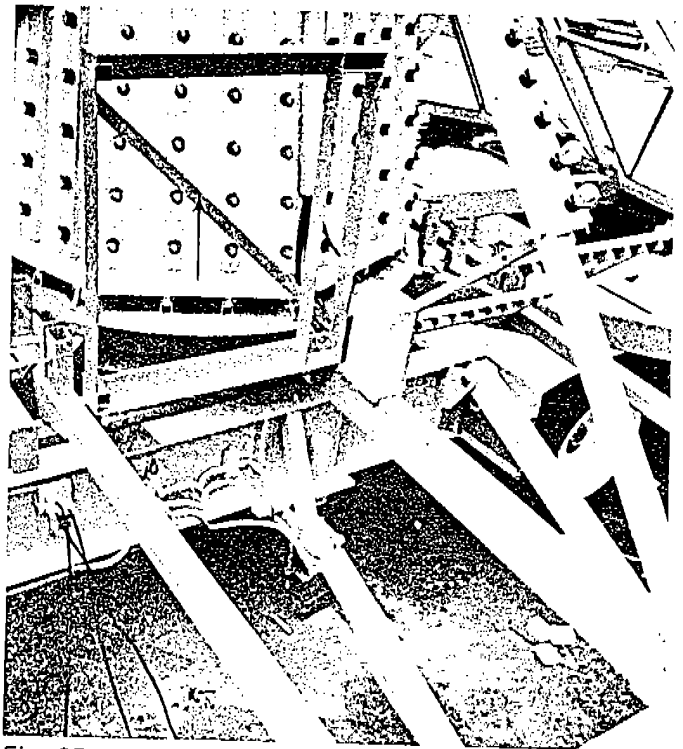

Fig. 65
- (2) Install the other rack section in the sockets on the rotating platform frame bars, near the center cone. Position the rack section so the racking slots face away from the center cone. (Fig. 65)